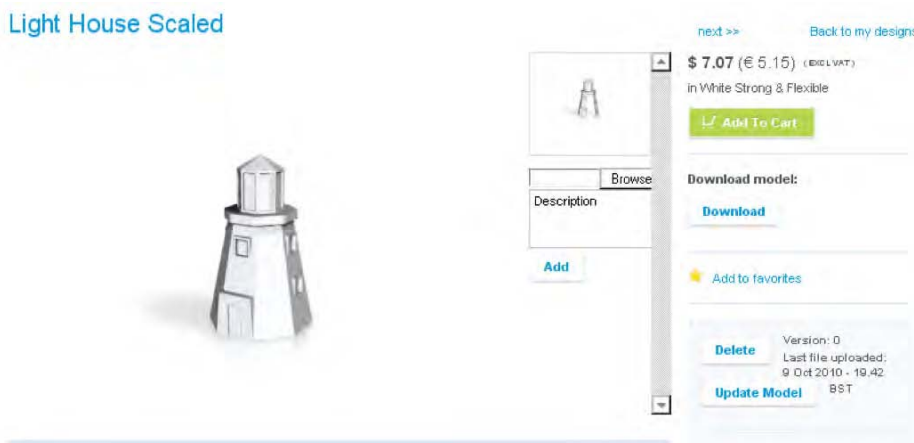

Figure 4–36. Lighthouse scaled and hollowed in Shapeways
To order the model, make sure to select the model from the “my designs” page. On the model page, click Order. The model measures 4cm (H) × 2.3 cm (W) × 2.3 cm (L). Within two weeks, the model will arrive in the mail. Figure 4–37 shows the final results of the model.